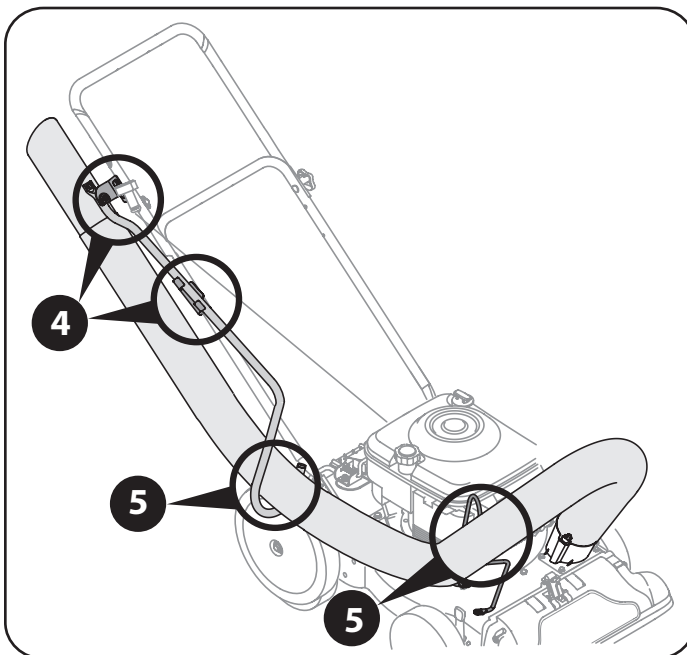

Figure 6
4. Snap the hose handle first into the upper hose handle bracket and then into the lower hose handle bracket. See Figure 6.